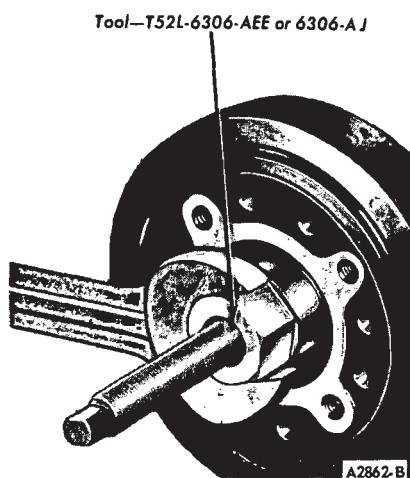

FIG. 23—Installing Crankshaft Vibration Damper
- Line up the crankshaft vibration damper keyway with the key on the crankshaft. Install the vibration damper on the crankshaft (Fig. 23). Install the cap screw and washer. Torque the screw to specifications. Install the crankshaft pulley.
10. Line up the crankshaft vibration damper keyway with the key on the crankshaft. Install the vibration damper on the crankshaft (Fig. 23). Install the cap screw and washer. Tighten the cap screw to specifications. Install the crankshaft pulley.